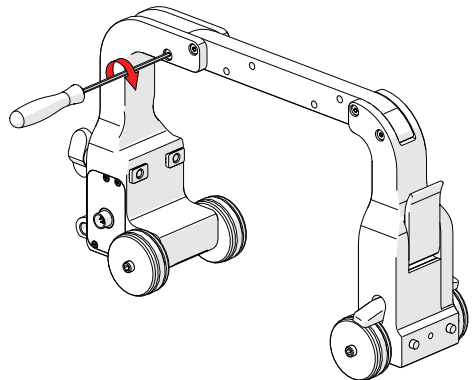

Fig. 12 - Tighten shoulder screws
3. Tighten the 2 shoulder screws with the supplied 2 mm hex driver (Fig. 12).